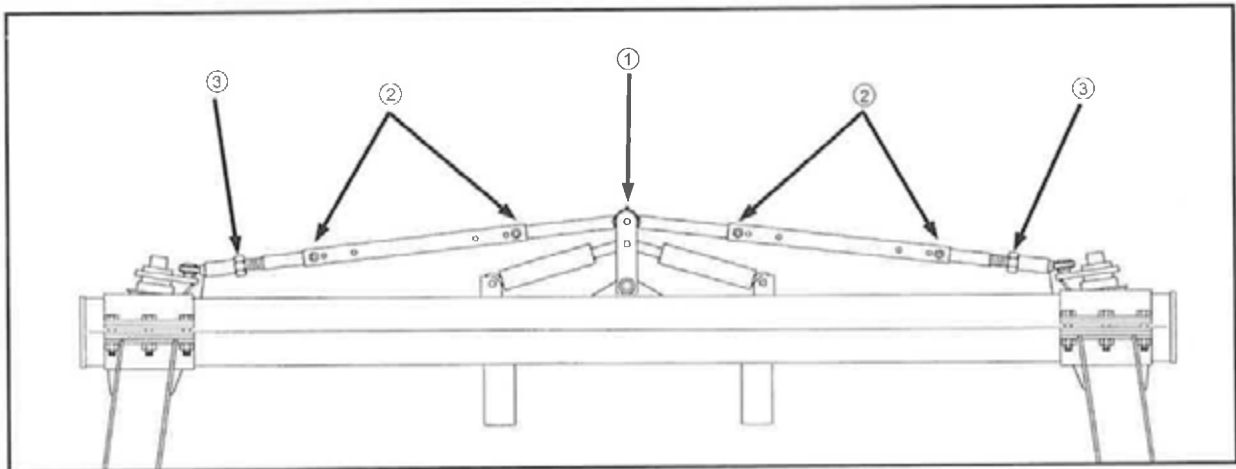

FIG 4.2
Steering pivot must be in vertical position (fig. 4.2, item 1).
2. Loosen tie rod bolts (fig 4.2, item 2) and tie rod jam nuts (fig. 4.2, item 3). Remove the bolts and nuts from the tie rod.